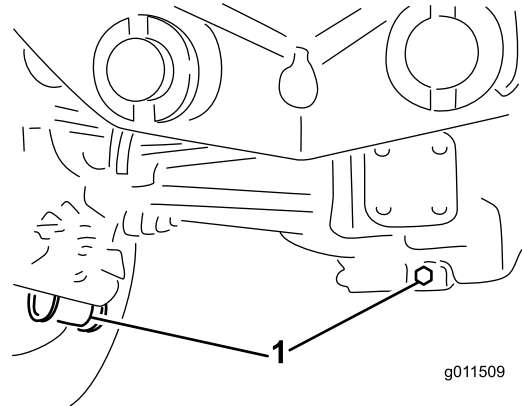

Figure 94
2. Clean the area around the 3 drain plugs; 1 on each end and 1 in the center (Figure 94).